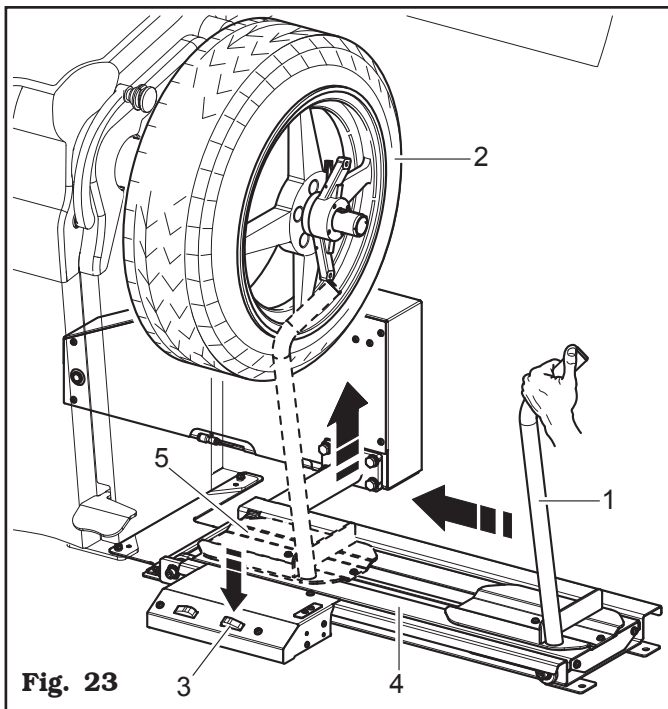

Fig. 23
- Move leftwards the wheel support (Fig. 23 ref. 1) until bringing it into contact with the tyre (Fig. 23 ref. 2).
- Press the pedal for rising (Fig. 23 ref. 3) and lift the footboard (Fig. 23 ref. 4) until the wheel bearing (Fig. 23 ref. 5) comes in contact with the tyre (Fig. 23 ref. 2).